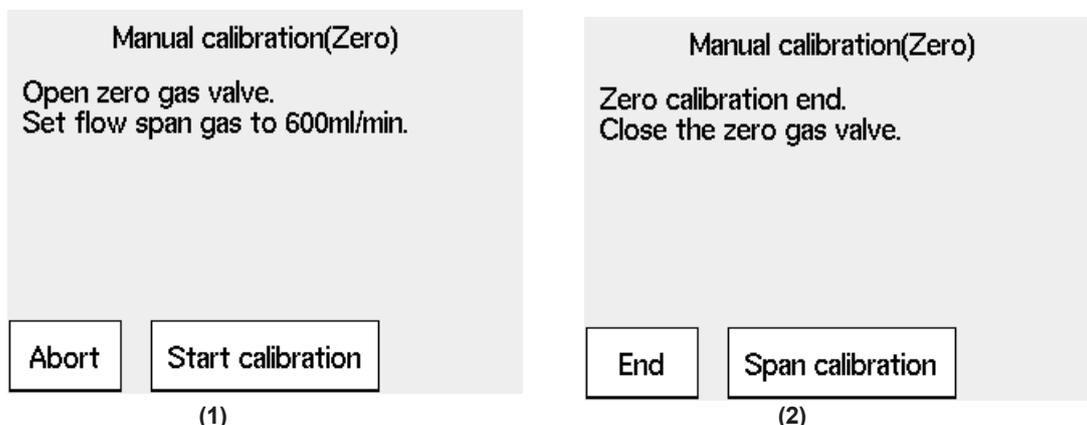

Figure 9.32 (1) Zero Gas Manual calibration
- (1) When the display shown in Figure 9.32 (1) appears during calibration, open the zero gas flow setting valve of the flow setting unit and adjust the flow rate to 600 ± 60 ml/ min. To rotate the valve shaft, if the valve has a lock nut loosen the lock nut and slowly turn it counterclockwise. To check the flow rate, monitor the calibration gas flowmeter. If the sample gas pressure is extremely high, adjust the sample gas pressure to obtain pressures (listed in Table 9.10) $\pm 10\%$.
- (2) Adjust the flow rate and select "Valve opened" from the Manual calibration display. Check the Trend graph display to see that the measured value is stabilized. Then press the [Enter] key. The Manual calibration display shown in Figure 9.32 (2) appears.